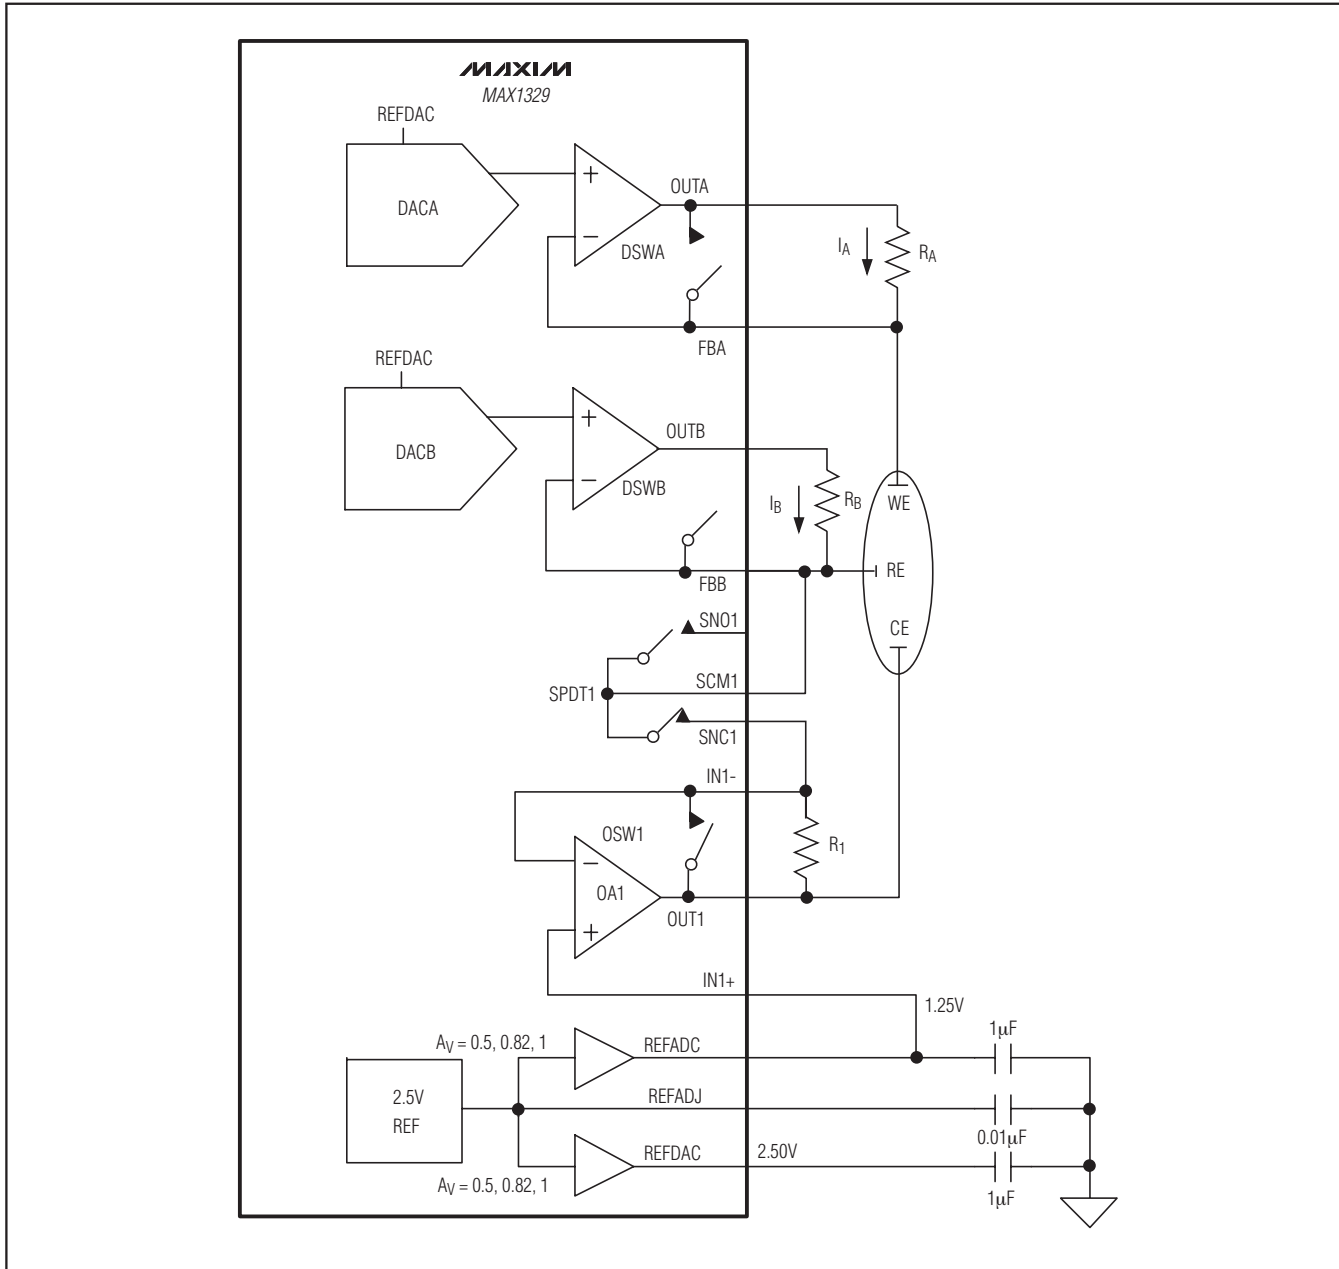

Figure 29. Three-Electrode Potentiostat Software-Switchable Single- or Dual-Channel Connection
The MAX1329 is used in a software switchable single- or dual-channel three-electrode potentiostat application (see Figure 29). In both configurations, the DAC buffer feedback switches, DSWA and DSWB, are normally open but can be closed during high sensor current to keep the DAC buffer outputs compliant. In the dual-channel configuration, the SPDT1 switch is open and the OSW1 switch is closed. DACA biases the working electrode (WE) and DACB biases the reference electrode (RE) both relative to the counter electrode (CE). The CE is shared by the two channels. In this configuration, RE is really a second working electrode and IA and IB are the two sensor currents being measured. IA and IB are converted to voltages through RA and RB and measured by the internal ADC. In the single-channel configuration, the SPDT1 switch is closed and the OSW1 switch is open. DACA biases the WE relative to the RE and the RE is set by IN1-. Op amp 1's force-sense configuration holds RE constant while the CE swings up and down depending on the sensor current and the sensor impedance. In this configuration, IA is the sensor current being measured. The R1 resistor is typically a large value to keep op amp 1 stable when the sensor is not present or not active.